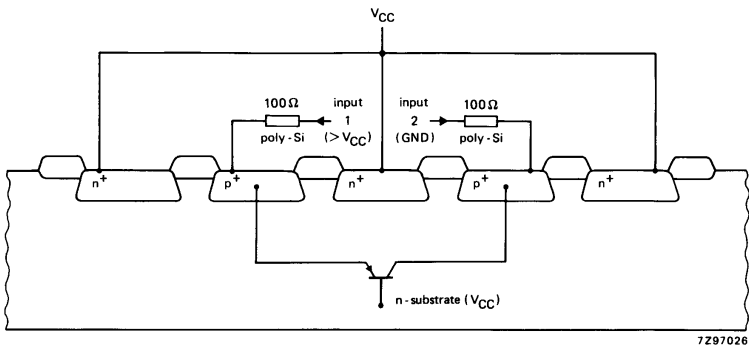
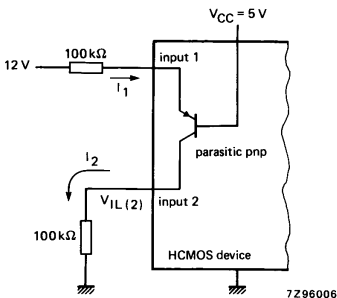

Fig.30 Cross-section of the input protection of an HCMOS device showing the parasitic pnp transistor between adjacent inputs.
Fig.31 12 V-to-5 V logic-level conversion at HCMOS inputs using 100 k Ω series resistors.
Parasitic bipolar pnp transistors can be present between adjacent inputs, e.g. between an input protection diode to V_{CC} and the same diode at the adjacent input, as shown in Fig.30. If the recommended operating input voltage is exceeded, perhaps by ringing of more than 0.7 V, current into the terminal (I_1) can cause a current I_2 in the parasitic transistor and in the adjacent input (Fig.31). Because I_2 in the adjacent input has to be drained by the source driving that input, the source resistance (R) must be low. If R is not low enough, the parasitic current can lift the source voltage and cause unwanted switching.
A low α permits proper logic operation in the presence of transients and also allows HIGH-to-LOW voltage translation simply by adding series input resistors. For example, in Fig.31, 12 V system logic is converted to 5 V system logic by adding a 100 k Ω resistor in each input. Since the logic signals are delayed by 1-2 μ s, this arrangement is suitable for rather slow 12 V control logic such as that in automotive applications. When the input diodes are used as clamps for logic level translation, the total input current should be limited to 20 mA.